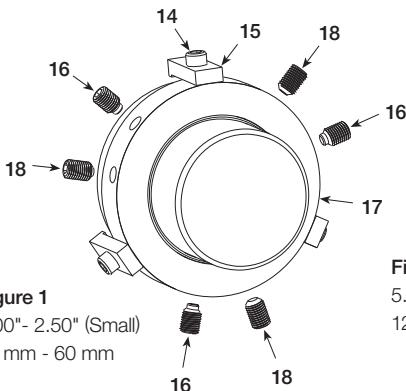

Figure 1
11. **IMPORTANT: All 1/4 dog point set screws must be tightened FIRST.** See figures 1 and 2 below for location of dog point set screws. If rotation of the lock ring is required for tightening set screws, loosen or remove one centering clip. Finger tighten each 1/4 dog point set screw by twisting the short end of the hex key with your finger tips. Then tighten each 1/4 dog point set screw per the recommended tightening torque shown on the chart at the bottom of page 2.